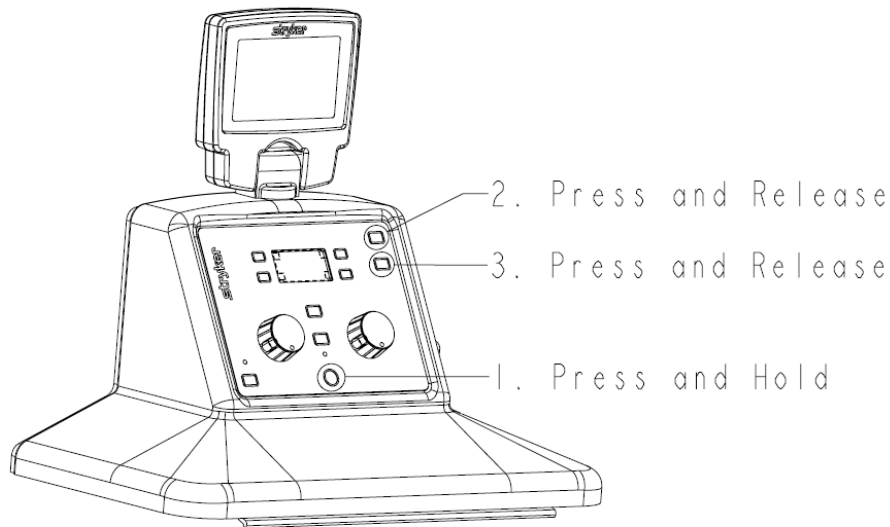

Figure 5: Access the Technician Menu
9. To access the technician menu from the system settings menu, hold down the vacuum system power button,  then press and release the IV pole up button, and finally press and release the IV pole down button (see figure 5).